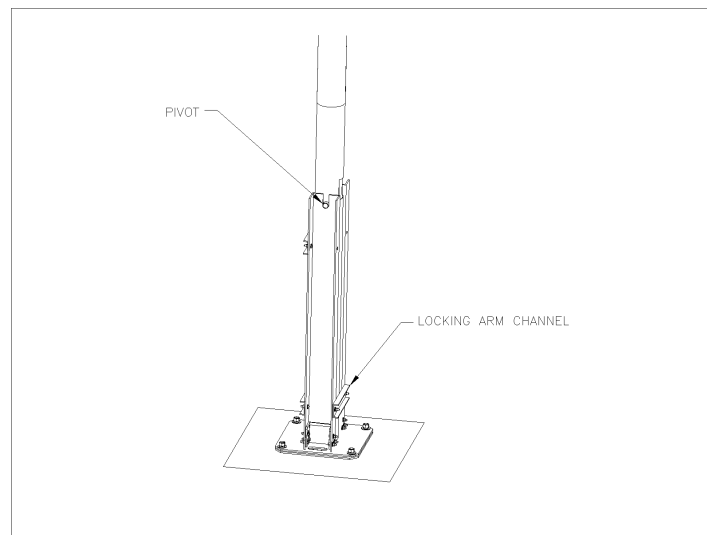

Figure 1-23. 10-Meter Tower Pivot Assembly - Close-up
- Remove two bolts (3/4") securing single locking assembly channel to C-channels at tower base (Figure 1-23).